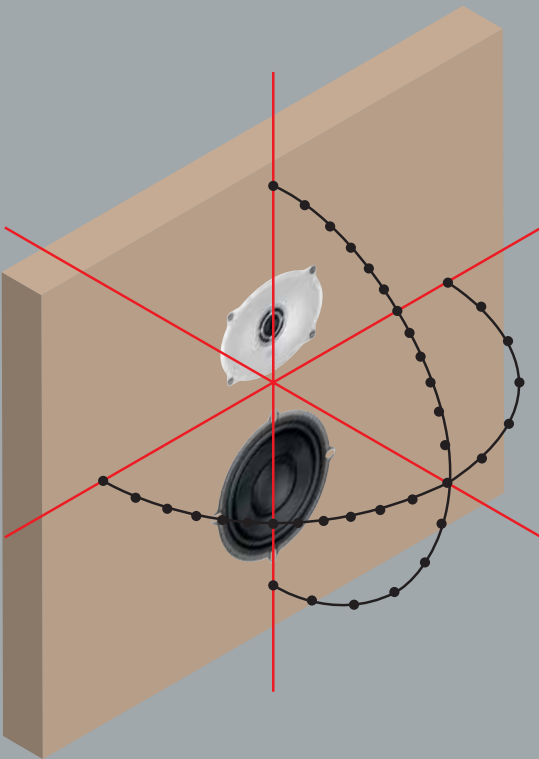

Figure 7. Measurements are made at 10° intervals along the horizontal and vertical axes.
The Directivity Index (DI) is the ratio of the intensity of the sound in the listening window to the average of the intensity of the sound radiated at all angles (sound power). We make measurements of the speakers in two semicircular patterns along the horizontal and vertical axes of the speaker (Figure 7). With those measurements, we determine the size of the optimal listening window and calculate the sound power of the speaker. We then compare the sound power to the response in the listening window and plot the directivity index for the speaker system's frequency response.